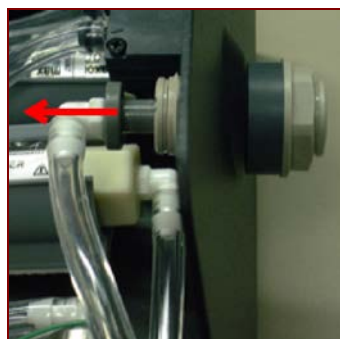

Figure 1
- Make sure nothing is plugged into the back of the instrument, then remove the two (2) side screws from the intake end of the instrument and open the case.
- Gently pull the inner portion of the intake out of the intake port in the direction of the arrow, as shown in Figure 1 below.